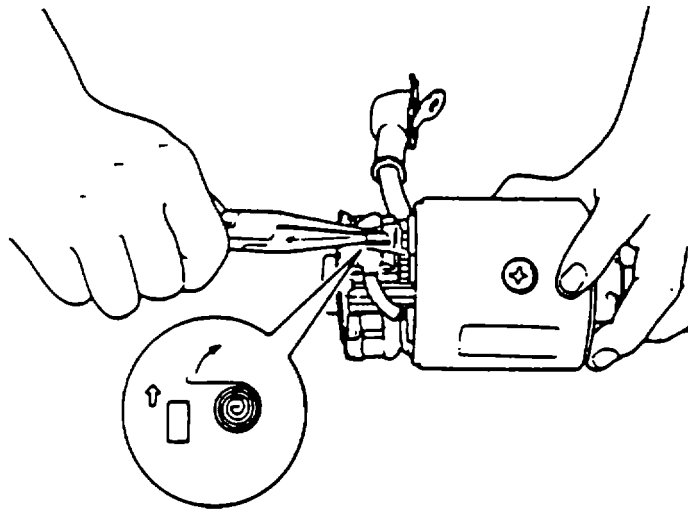

FIGURE 3-19. Removing Brushes
- e. Lift brush springs and remove brushes from brush holder (13, FIGURE 3-15), refer to FIGURE 3-19. Remove brush holder assembly (13).